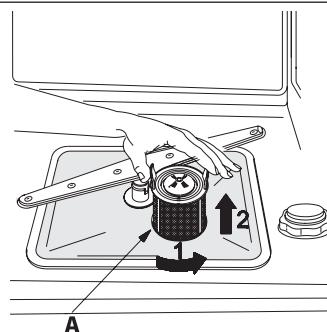

Fig. 6-04
- Periodically inspect the filter unit (ref A fig. 6-04) and, if necessary clean it under running water (at room temperature), using a stiff brush. To remove the filter, grip the tabs, turn anticlockwise and lift upwards;
- after cleaning, remount the filter unit, joining the two parts comprising the centre filter by pushing slightly until they click into place; insert the centre filter into the micro-filter (see fig. 6-05). Reposition the filter unit (ref. A fig. 6-04) into its seat, turning it clockwise until it locks.